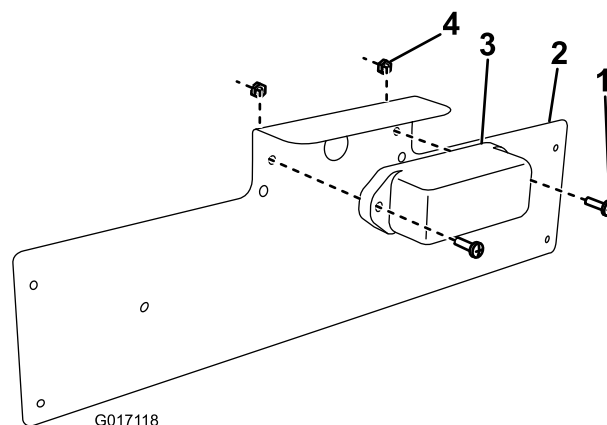

Figure 1
1. Install the plate light assembly to the license plate bracket using two phillips-head screws (10-24 x 5/8inch) and two lock nuts (10-24) as shown in Figure 1.
3. Install the license plate bracket assembly to the center boom. Use two hex-head flange screws (5/16-18 inch) and two lock nuts (5/16 inch) to secure the assembly to the boom (Figure 1).